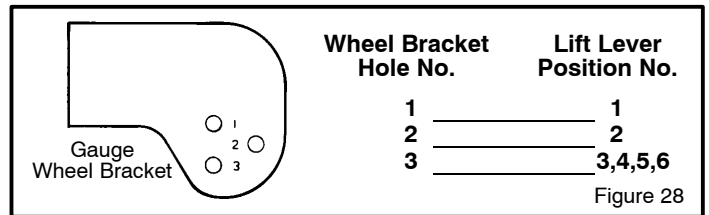

Figure 28
3. Look at each **gauge wheel bracket**. There are 3 holes in each bracket and a number next to each hole. The number for the height of cut position on the **lift lever** indicates the correct hole to use on each **gauge wheel bracket** (Figure 28).
4. Assemble the axle bolts to the **gauge wheel brackets** using the correct hole in the bracket as indicated (Figure 28).
NOTE: If the height of cut position is changed by the lift lever, you must move the gauge wheels to the correct hole (Figure 28) to keep a level height of cut.